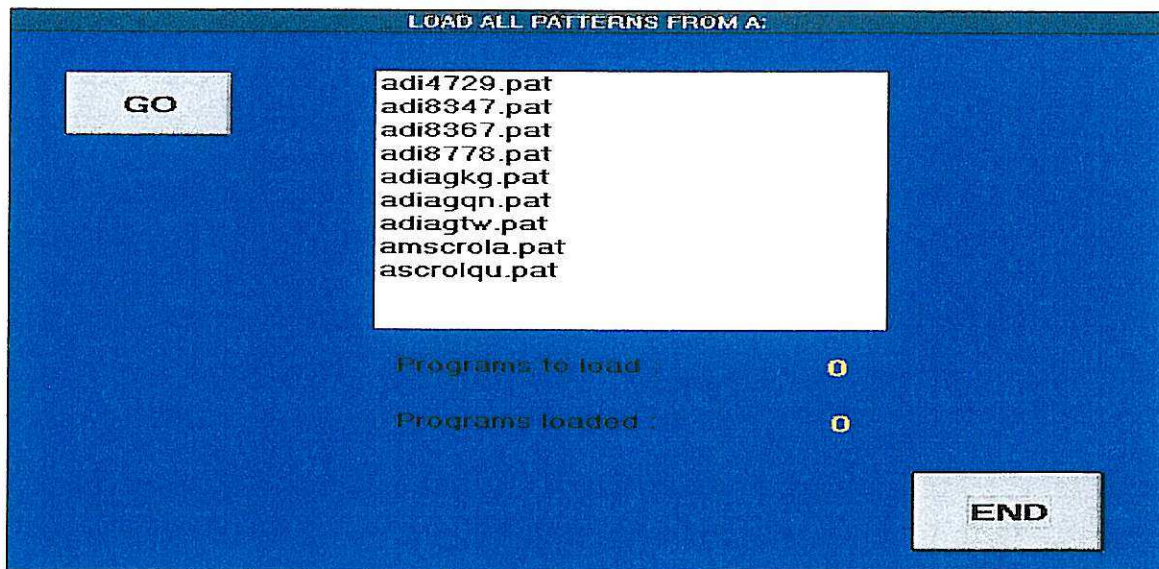

Figure 4.24
- C. To load all patterns, press the "Load all patterns" key and a load all patterns screen will appear. See Figure 4.24. Press the "Go" key and the computer will load all patterns from the disk to the hard drive. A message will appear indicating the loading is complete. Press the "End" key.